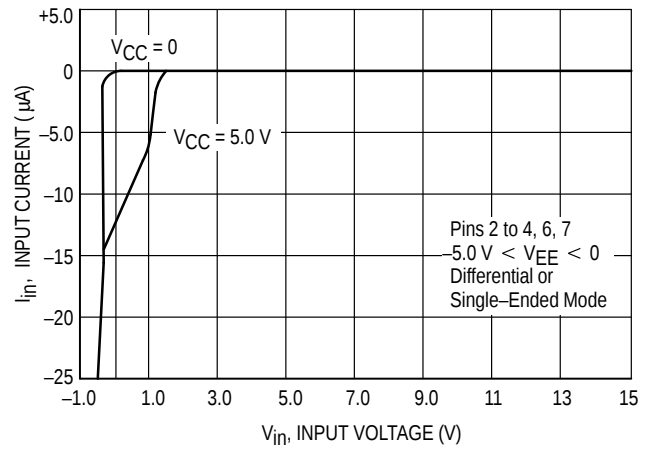
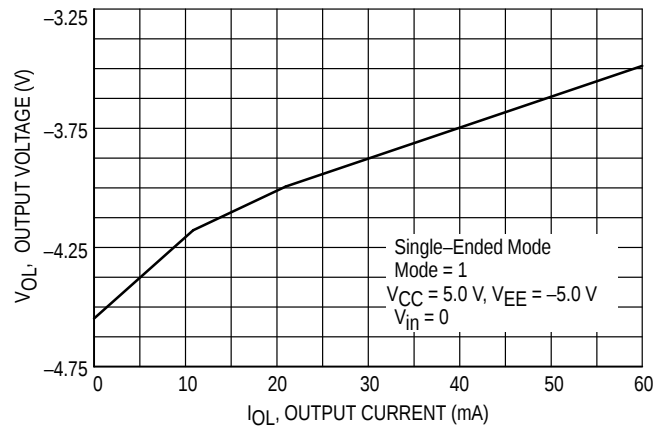

Figure 10. Output Voltage versus Output Source Current
Figure 12. Internal Positive Bias Current versus Load Current
In this mode (Pin 4 ≥ 2.0 V) V_{CC} requires +5.0 V, and V_{EE} requires -5.0 V, both $\pm 5.0\%$. Pins 2, 3, 6, and 7 are inputs for the four drivers, and Pins 15, 14, 11, and 10 (respectively) are the outputs. The four drivers are independent of each other, and each output will be at a positive or a negative voltage depending on its input state, the load current, and the supply voltage. Figures 10 & 11 indicate the high and low output voltages for $V_{CC} = 5.0$ V, and $V_{EE} = -5.0$ V. The graph of Figure 10 will vary directly with V_{CC} , and the graph of
In the single-ended mode, V_{EE} must be -5.0 V, $\pm 5\%$ in order to comply with EIA-423-A standards. Figures 12 and 13 indicate the internally required bias currents as a function of total load current (the sum of the four output loads). The discontinuity at 0 load current exists due to a change in bias current when the inputs are switched. The supply currents vary $\approx \pm 2.0$ mA as V_{CC} and V_{EE} are varied from $|4.75 \text{ V}|$ to $|5.25 \text{ V}|$.
The above equation assumes I_O has the same magnitude for both output states, and makes use of the fact that the absolute value of the graphs of Figures 10 and 11 are nearly identical. I_{B+} and I_{B-} are obtained from the right half of Figures 12 and 13, and $(V_{CC} - V_{OH})$ can be obtained from Figure 10. Note that the term $(V_{CC} - V_{OH})$ is constant for a given value of I_O and does not vary with V_{CC} . For an application involving the following conditions:
2) The device may be operated in the single-ended mode (Pin 4 = 1) with V_{EE} connected to any voltage between ground and -5.25 V. Outputs in the high state will be at a voltage as shown in Figure 10, while outputs in a low state will be referenced to V_{EE} .